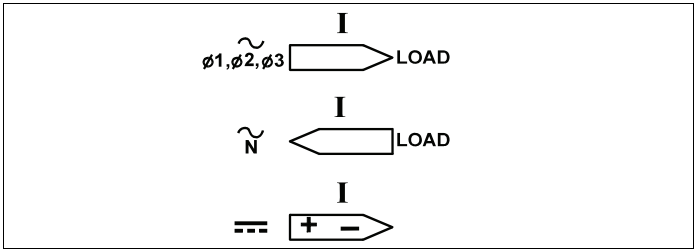

Figure 3. Current Probe Orientation
5. Clamp the Probe around the conductor. Make sure that the arrow mark on the jaw of the Probe points toward the correct orientation. See Figure 3.